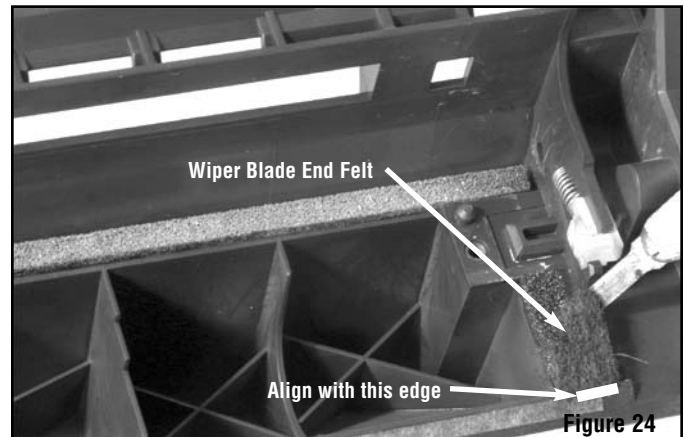

Figure 24
2. Using a scraper tool align the front edge of the Wiper Blade End Felt with the ledge, just in front of where the Recovery Blade is installed. See figure 24.